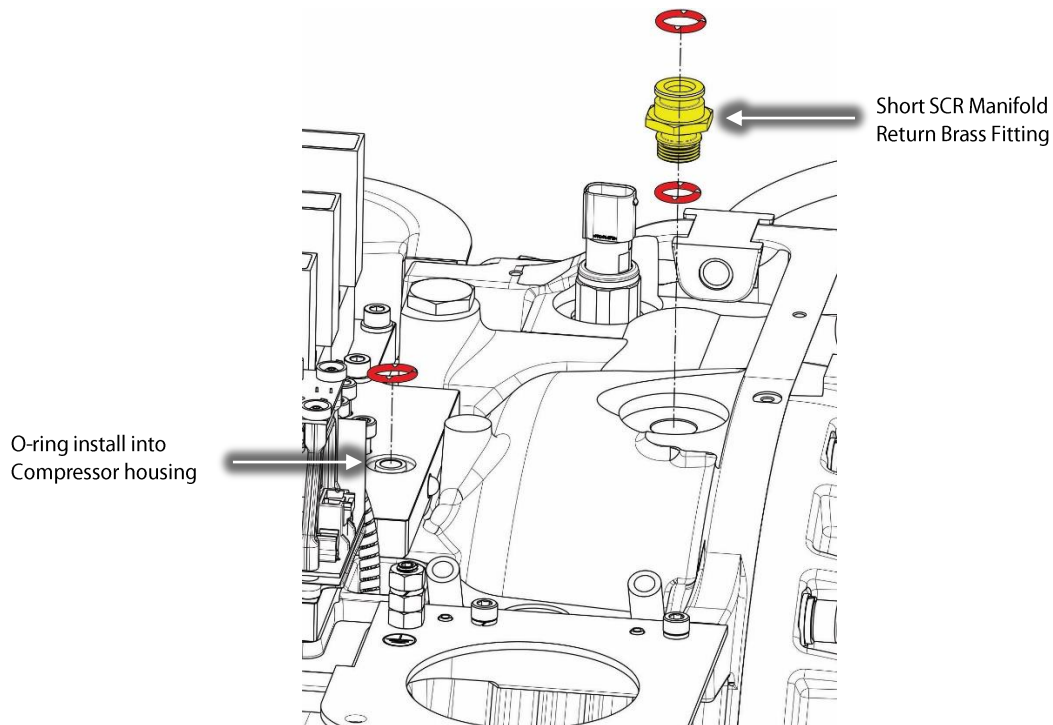

Figure 6 – Short Manifold Return Brass Fitting Installation for Option 1
8. Install new O-rings onto the SCR Manifold Return Brass Fitting and Inverter Heat Sink Plate. Refer to Figure 6 – Short Manifold Return Brass Fitting Installation for Option 1 for this and the following two steps.